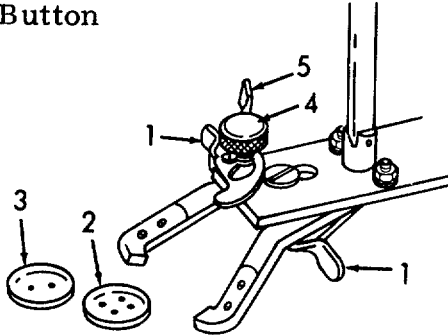

Figure 2-53. Button Clamp Opening, Adjustment.
e. Adjusting Opening in Button Clamp (Refer to Figure 2-53).